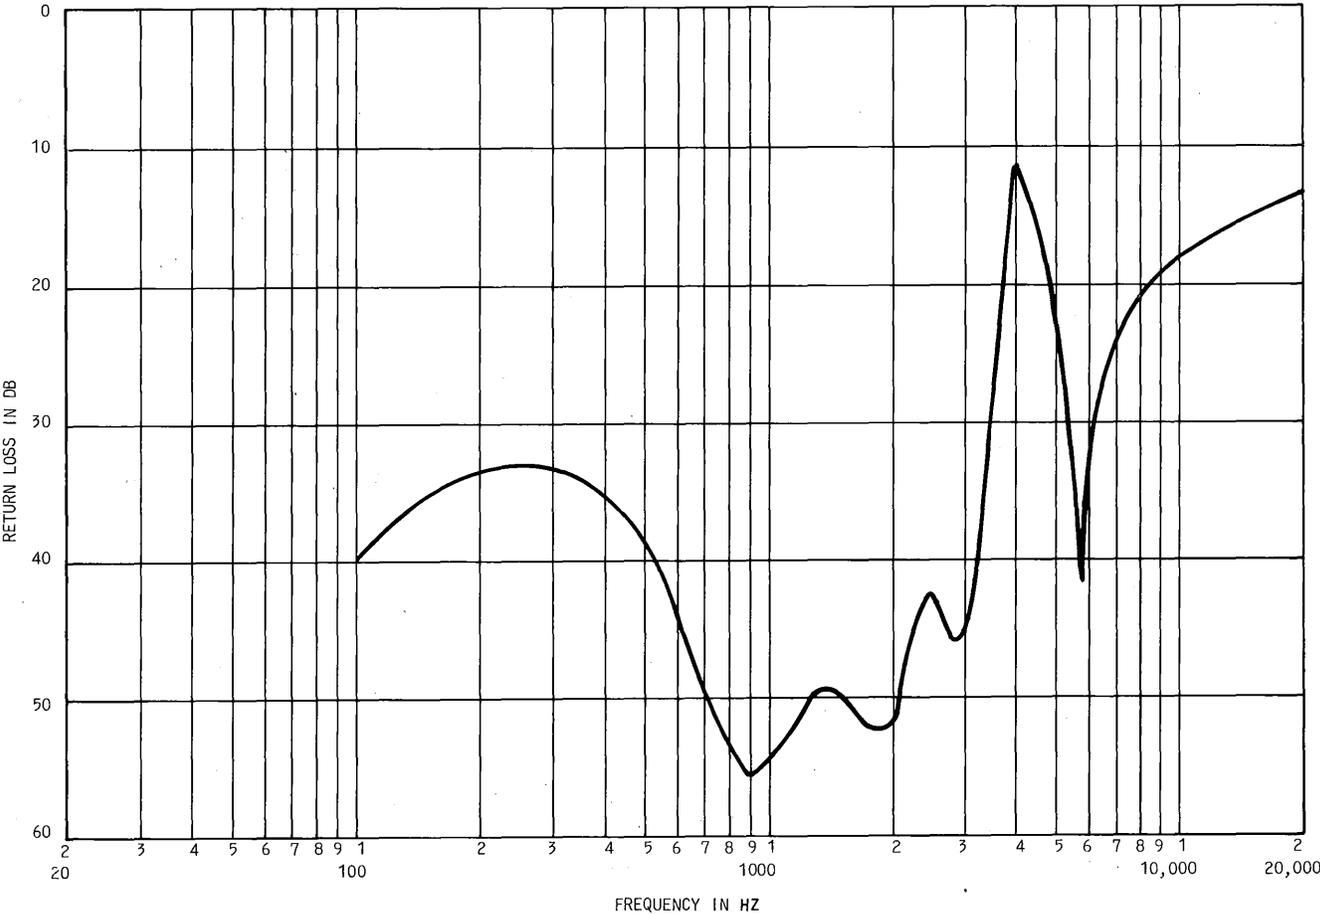

Fig. 2—4066K Network—Return Loss Vs 25H88 MAT Cable—End Section = 3000 Feet
**3.03** Figure 2 is a graphic illustration of the input return loss for a typical MAT facility when referenced to and terminated with 4066K networks. The networks and building-out capacitors (BOCs) are set to the prescription values shown in Tables A and B.